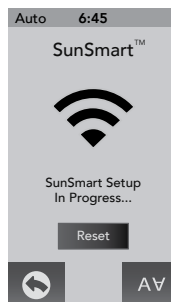

Figure 12.8b
2. While the system attempts to connect you will see the, “SunSmart Setup In Progress,” Figure 12.8b. When the connection is done the display will read, “SunSmart Setup Successfully Connected.”